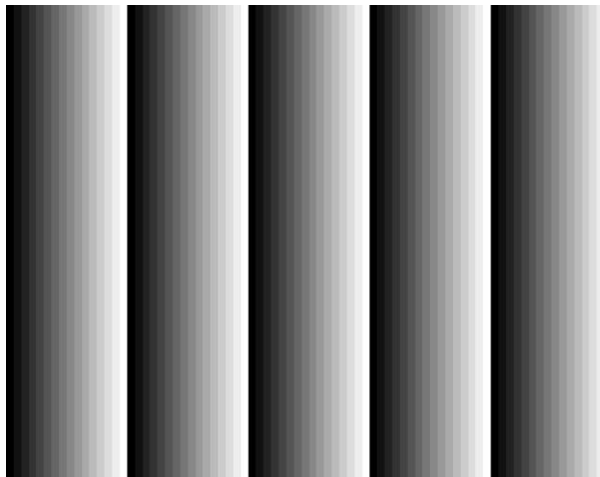

Figure 12 – Horizontal pattern
1. Horizontal ramp – a grayscale horizontal gradient as shown in Figure 12: